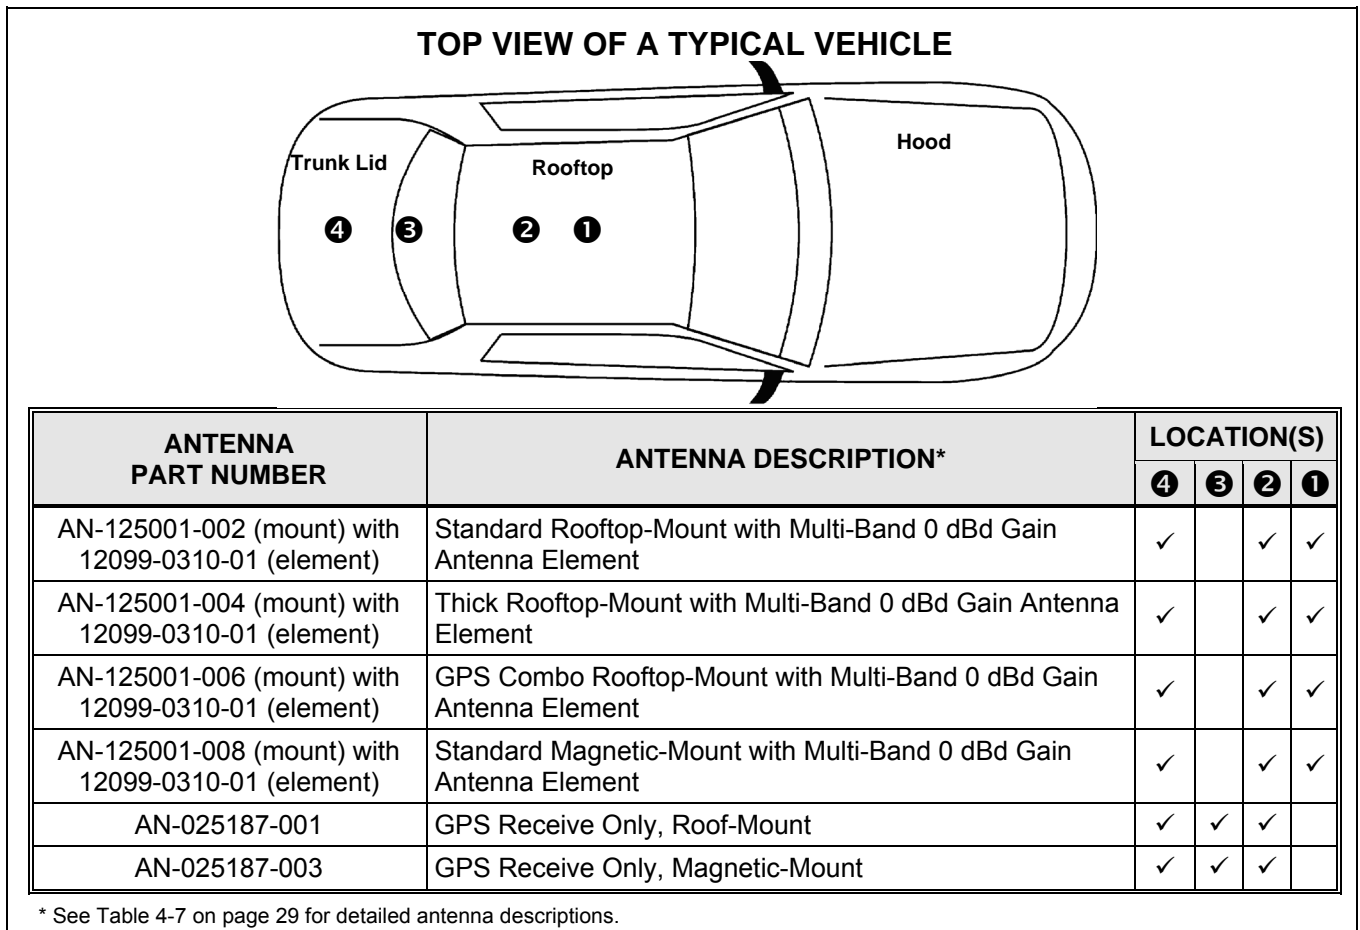

Figure 6-1: Recommended Antenna Mounting Locations with Antenna Part Numbers
Figure 6-1 below illustrates recommended antenna mounting locations. Use this figure together with the minimum safe lateral distance data presented in Table 1-1 on page 9 as a guide for determining the best possible antenna mounting location(s). This is necessary in order to reduce human exposure to radio frequency (RF) electromagnetic energy when the radio is transmitting. The radio's antenna(s) must be located on the vehicle as shown in Figure 6-1. Always follow antenna mounting and installation instructions presented in this section and any instructions provided with an antenna.
Table 4-7 (page 29) and Figure 6-1 list the mobile radio antennas available for use with the radio. As presented in the previous section, various mounting locations exist. Optimal performance is achieved via a rooftop antenna mounted in the direct center of the motor vehicle's roof.